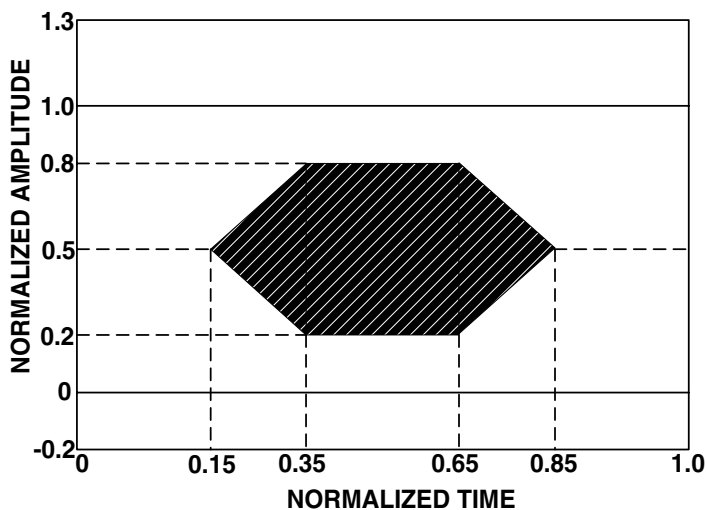

Figure 2. Transmitter Optical Eye Diagram Mask
- Laser transmitter pulse response characteristics are specified by an eye diagram (Figure 2).